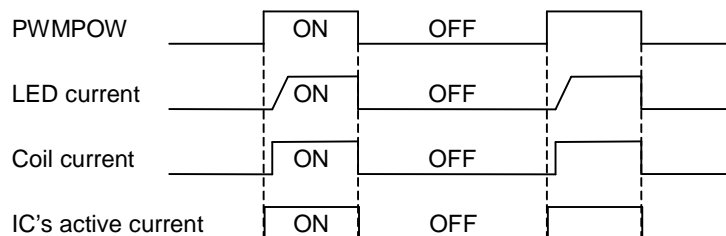

Figure 43.
2) Power control PWM control is controlled by providing PWM signal to PWMPOW, as it is shown Figure 43. The current setting set up with PWMDRV logic is chosen as the H section and the current is off as the L section. Therefore, the average LED current is increasing in proportion to duty cycle of PWMPOW signal. This method is, because IC can be power-off at off-time, the consumption current can be suppress, and the high efficiency can be available, so it makes it possible to brightness control until 50μs (MIN1% at 200Hz). And, don't use for the brightness control, because effect of power ON/OFF time changeover is big under 50μs ON time and under 50μs OFF time. There is no effect of ON/OFF changeover at 0% and 100%, so there is no problem on use.